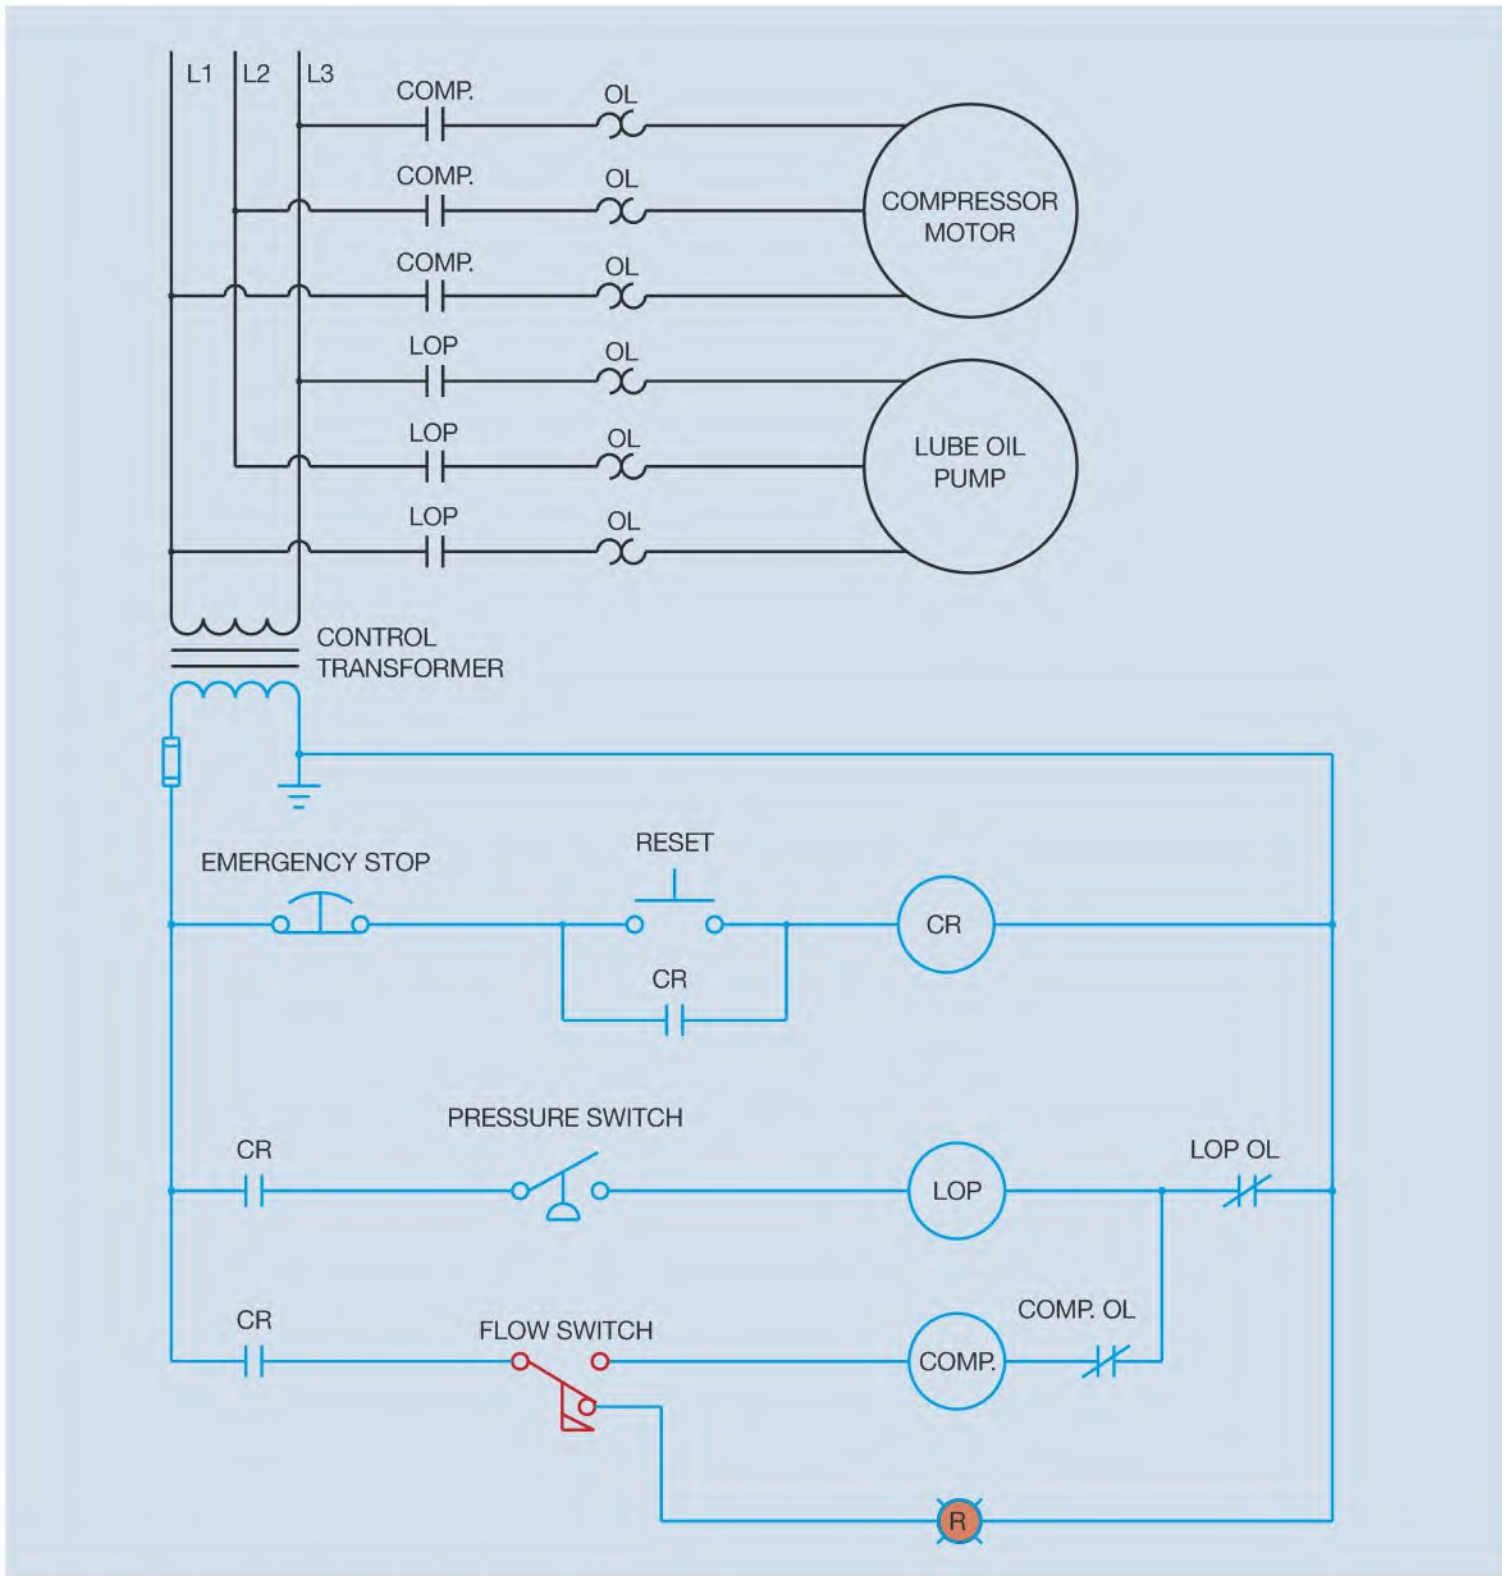
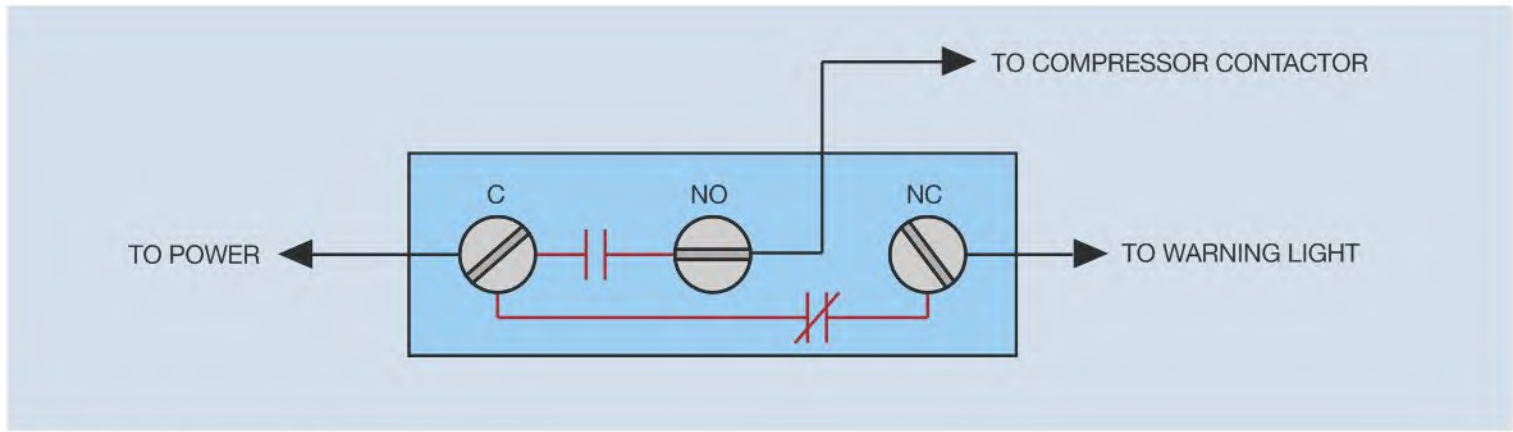

Figure 15-6 A red warning light indicates there is no oil flow.
Figure 15-7 Connecting the flow switch.
lights. A circuit that employs both the normally open and normally closed contact of a flow switch is shown in Figure 15-6. The circuit is designed to control the operation of an air compressor. A pressure switch controls the operation of the compressor. In this circuit, a normally open push button is used as a reset button. The control relay must be energized before power can be supplied to the rest of the control circuit. When the pressure switch contact closes, power is supplied to the lube oil pump relay. The flow switch detects the flow of lubricating oil before the compressor is permitted to start. Note that a red warning light indicates when there is no flow of oil. To connect the flow switch in this circuit, power from the control relay contact must be connected to the common terminal of the flow switch so that power can be supplied to both the normally open and normally closed contacts (Figure 15-7). The normally open section of the switch connects to the coil of the compressor contactor, and the normally closed section connects to the red pilot light.
4. Refer to the circuit shown in Figure 15-6. The STOP button is shown to be an emergency STOP button. What does the symbol used for the STOP button actually represent?
5. Refer to the circuit shown in Figure 15-6. If an overload should occur on the compressor motor and the overload contact open, would it affect the operation of the lube oil pump?
6. Refer to the circuit shown in Figure 15-6. If the circuit is in operation and an overload should occur on the lube oil pump and the overload contact open, would it affect the operation of the compressor?
7. Refer to the circuit shown in Figure 15-6. The pressure switch is: